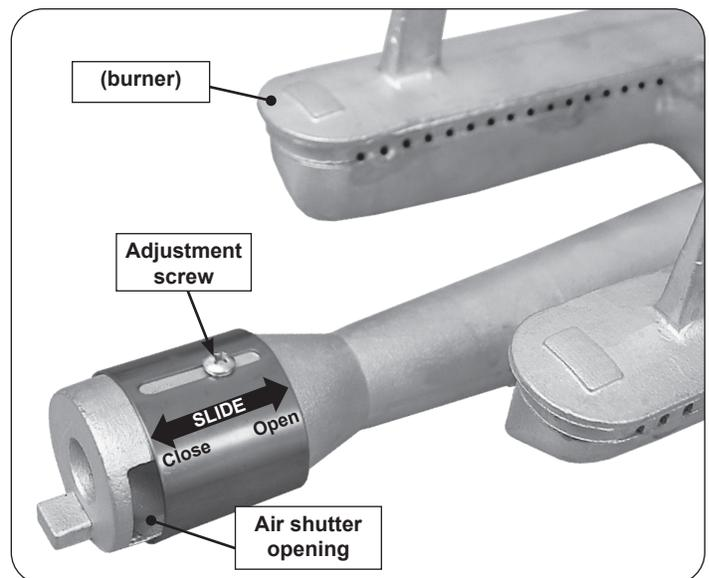

Fig. 36-2 Main burner air shutter adjustment detail
1. To adjust the air shutter, loosen the adjustment screw with a Phillips screwdriver. Then slide the shutter to open or close it. See Fig. 36-2 for details.